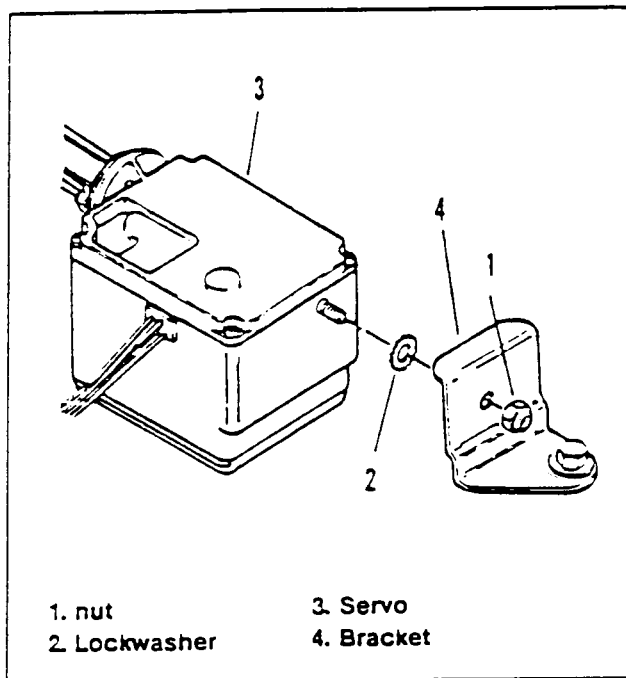

Figure 1. Servo Mounting
2. See Figure 1. Remove nut (1) attaching servo (3) to bracket (4). Pull servo free of bracket and remove lockwasher (3). Servo can now be moved to gain access to module mounting screws.
6. Attach module (2) to cross member (3) under seat using the two mounting screws (1) removed with original module
7. See Figure 1. Place lockwasher (2) on stud at end of servo (3). Insert stud into bracket (4). Install nut (1) onto servo mounting stud and tighten.